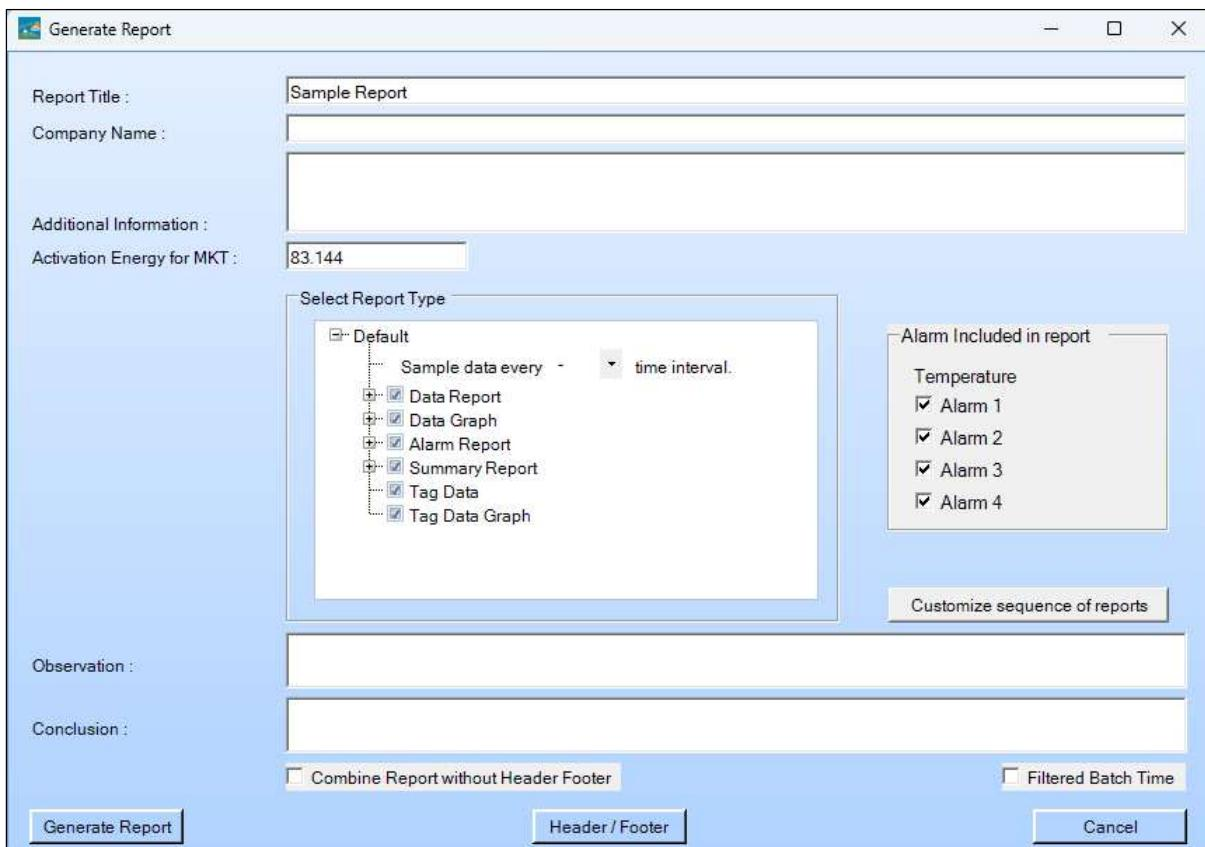

Figure 17 Filling up the options to generate PDF report
- To generate the PDF report of data, click on  icon. A pop up window will appear with the following options as shown in figure 17.